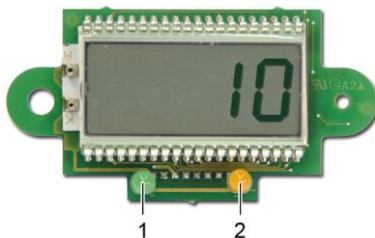

Figure 20
- Flip the maintenance switch (ref. 1) into the **CAL** (calibration) position: the yellow light (Figure 20, ref. 2) will be lit and the sensor will send a 2 mA current to the control unit (*Maintenance mode*).
- Flip the maintenance switch (rep. 1) into the **MES** (measure) position. The yellow light will turn off (Figure 20, rep. 2).